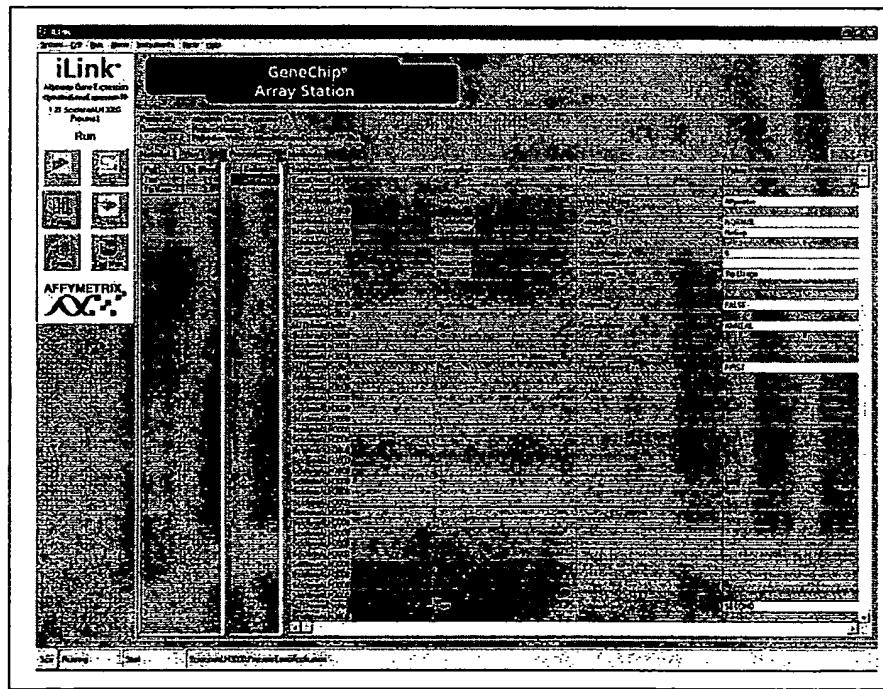

Figure 4.31
8. After clicking Continue Run, the options are read in from the Excel sheets; the Array Station TP application opens and the run commences (Figure 4.31).